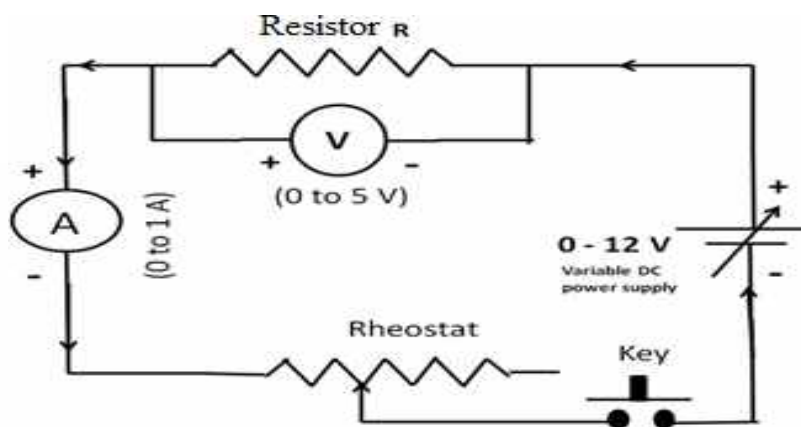

Fig. 01
1. Make connection as per circuit diagram (Fig. 01)